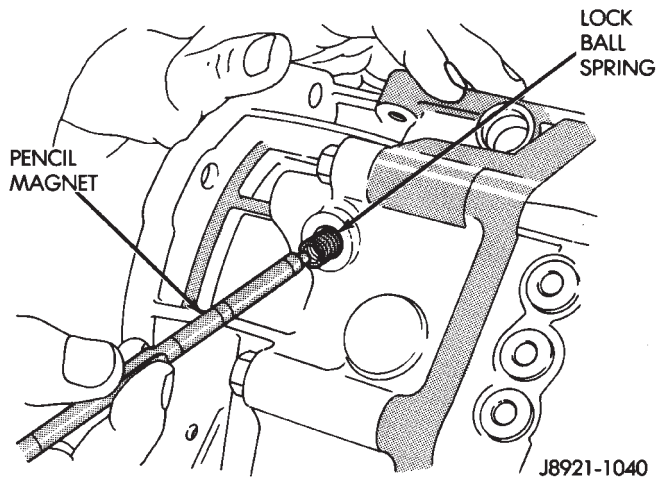

Fig. 10 Removing/Installing Lock Ball Spring
(11) Remove lock ball spring with pencil magnet (Fig. 10).